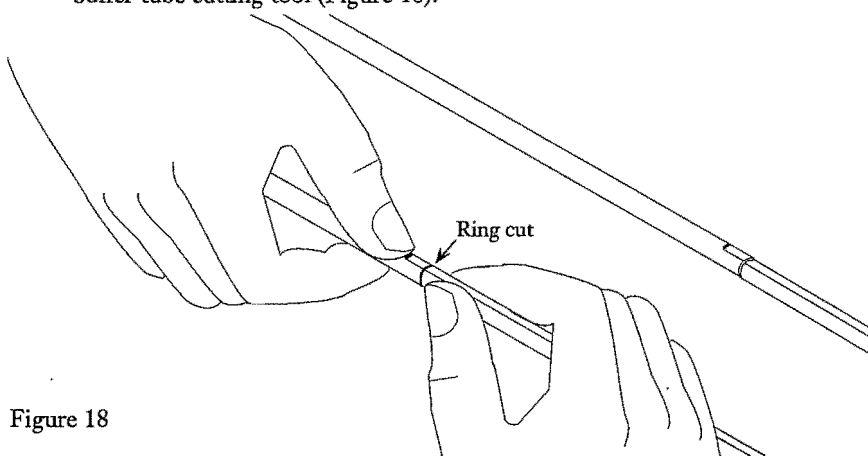

Figure 18
- a) Flex the tube at one mark to snap the tube where it was ring cut with the buffer tube cutting tool (Figure 18).